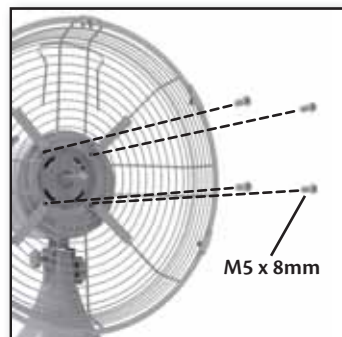

Figure 8
3. To attach the rear grill to the motor housing, partially install the four grill mounting screws. Tighten all four screws. Figure 8.